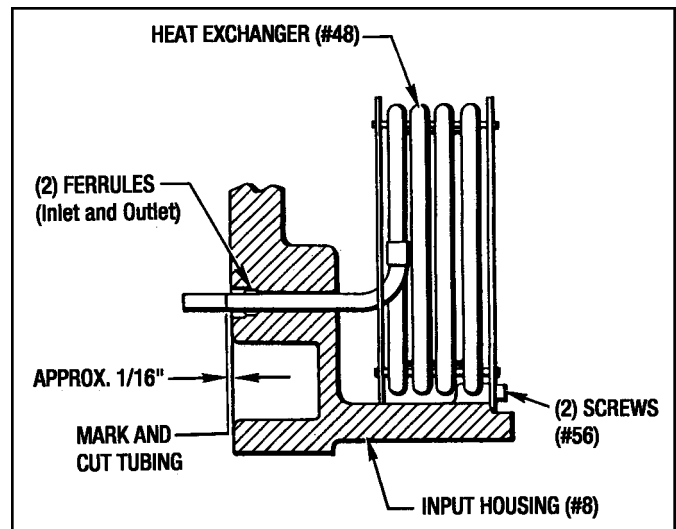

Figure 9.11 - Installing Water Cooled Heat Exchanger
- Reinstall the Heat Exchanger back into the Housing. Apply Loctite #271 to the tubing O.D. Then place the (2) Compression Fittings with Ferrules (#71) on the tubing. (See Figure 9.11).